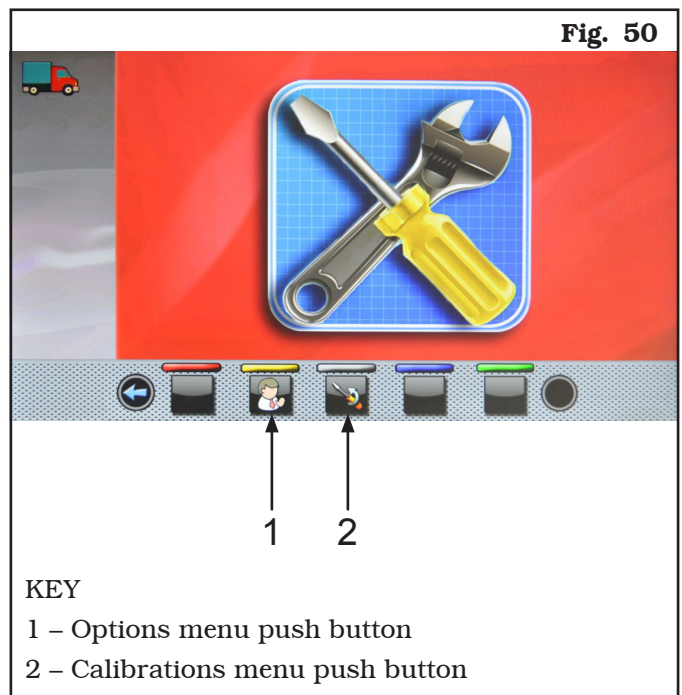

Fig. 50
Press the button  (Fig. 50 ref. 1), to display the screen pages to enable/disable options as shown below: